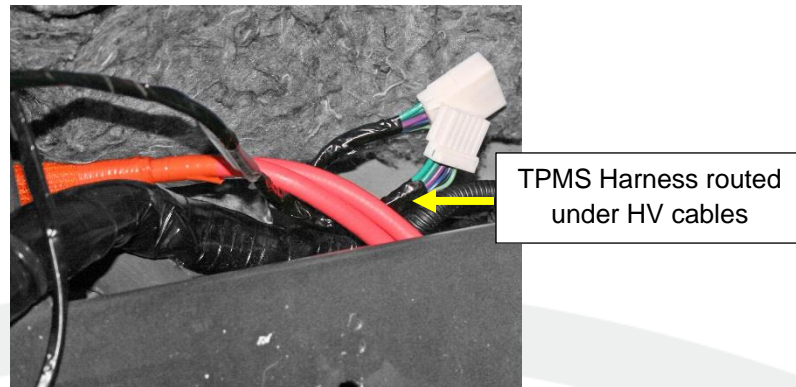

Figure 9
6. Working near the sill area, route the end of the harness with 2 connectors underneath the HV cables toward the B-Pillar (Figure 9).